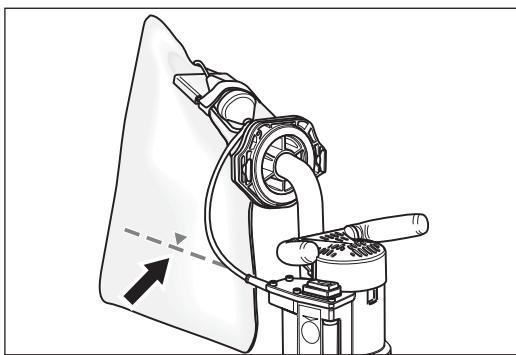

Fig. 20 The horizontal line marks the maximum fill level of the dust bag.
- The dust bag must be emptied when it is one-third full at the very latest in order to prevent a deterioration of the suction performance due to the lack of filtering surface area! The horizontal line on the outside of the dust bag marks the maximum fill level (fig. 20)!